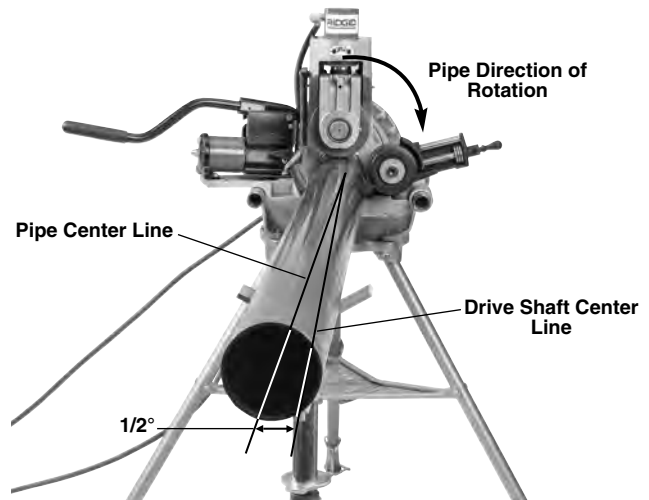

Figure 14 – Offsetting the Pipe 1/2° Toward Operator, (Exaggerated)
- Move the power drive/threading machine REV/OFF/FOR switch to the REV position. Press and release the foot switch. Drive roll should rotate clockwise (*see Figure 14*) matching the pipe rotation decal on the groover. If the groover does not rotate in the correct direction, or the foot switch does not control the machine operation, do not use the machine until it has been repaired.
7. **Preferred Operation – Switch in REV Setting:** Slightly offset the pipe and pipe stands approximately 1/2 degree (about 1" over at 10 feet from the roll groover) towards the operator. Proper alignment of the pipe and roll groover helps to ensure proper tracking of the pipe while grooving (see Figure 14). This is proper offset for grooving with the machine in the REV switch setting, and works with the stabilizer.
- Slightly increase the offset of the pipe (increase from $\frac{1}{2}$ degree to 1 degree) See *Figure 14*.